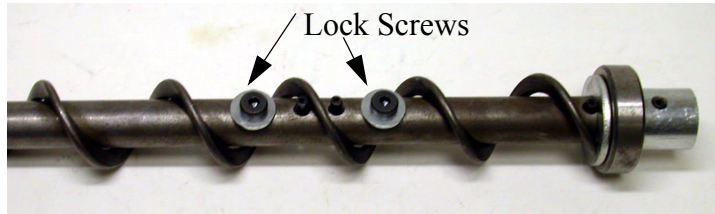

Figure 86. Auger and anchor Bearing Connection
1. Insert the Anchor Assembly into the auger until it touches the washer at the back of the anchor. Tighten the setscrews in the center of the anchor until they touch the auger, then tighten a maximum of 1/2 turn. See **Figure 86**.